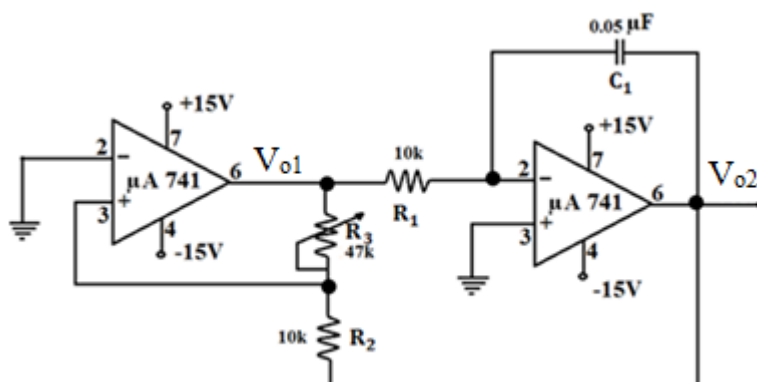

Fig. 9.3: Op-amp based triangular wave generator
- [i] Connect the circuit as shown in Fig. 9.3.